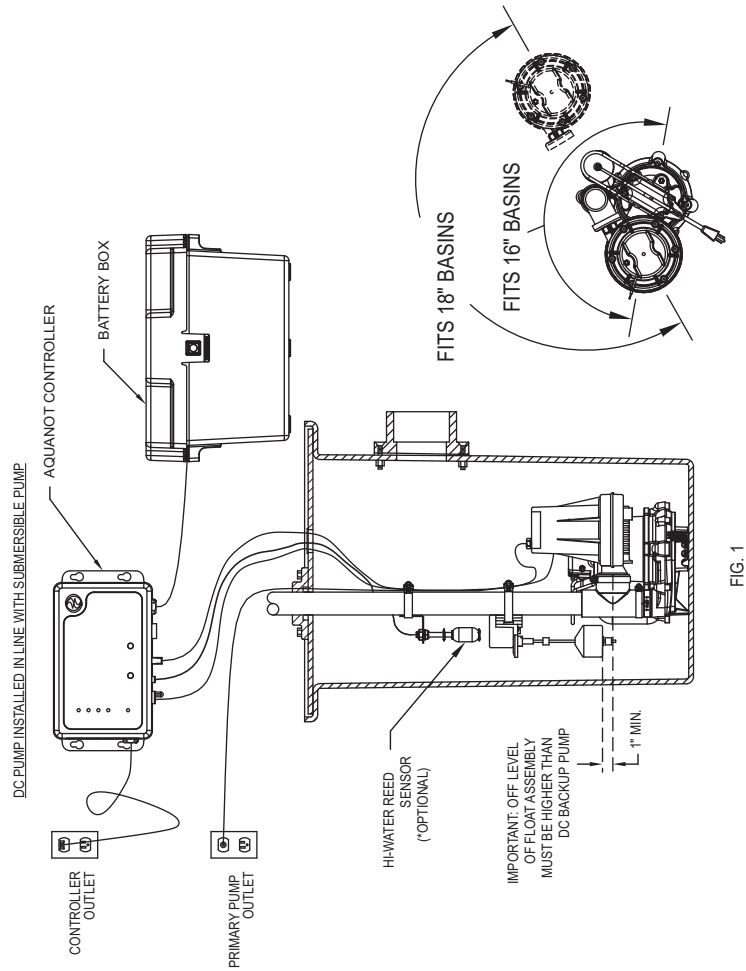

FIGURE 1
2. The preferred method of installation for backup pumps is shown in Figure 1. The installation kit includes one threaded check valve to be used in the discharge. An additional check valve is incorporated in the discharge of the backup pump.
4. Make certain the float switch clamp is tight on the pipe to avoid slippage. Ensure that the "off" level of the float is 1" (25 mm) min. above the discharge tee of the DC backup pump (see Figure 1). Position pumps in the sump and move float up and down, making sure of free movement without interference from any obstructions inside the sump or lid. Very shallow sumps may require some adjustment to avoid overfilling or backing up of water into the sump inlet. The float switch can be moved on the discharge pipe or the rubber stops can be adjusted as necessary.